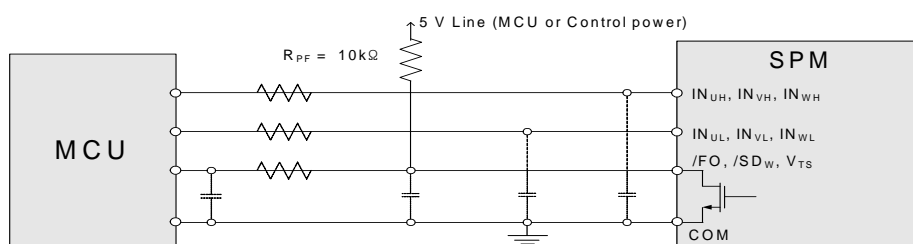

Figure 16. Recommended MCU I/O Interface Circuit
13. /FO is open-drain type. This signal line should be pulled up to the positive side of the MCU or control power supply with a resistor that makes I_{FO} up to 2 mA. Please refer to Figure 16.